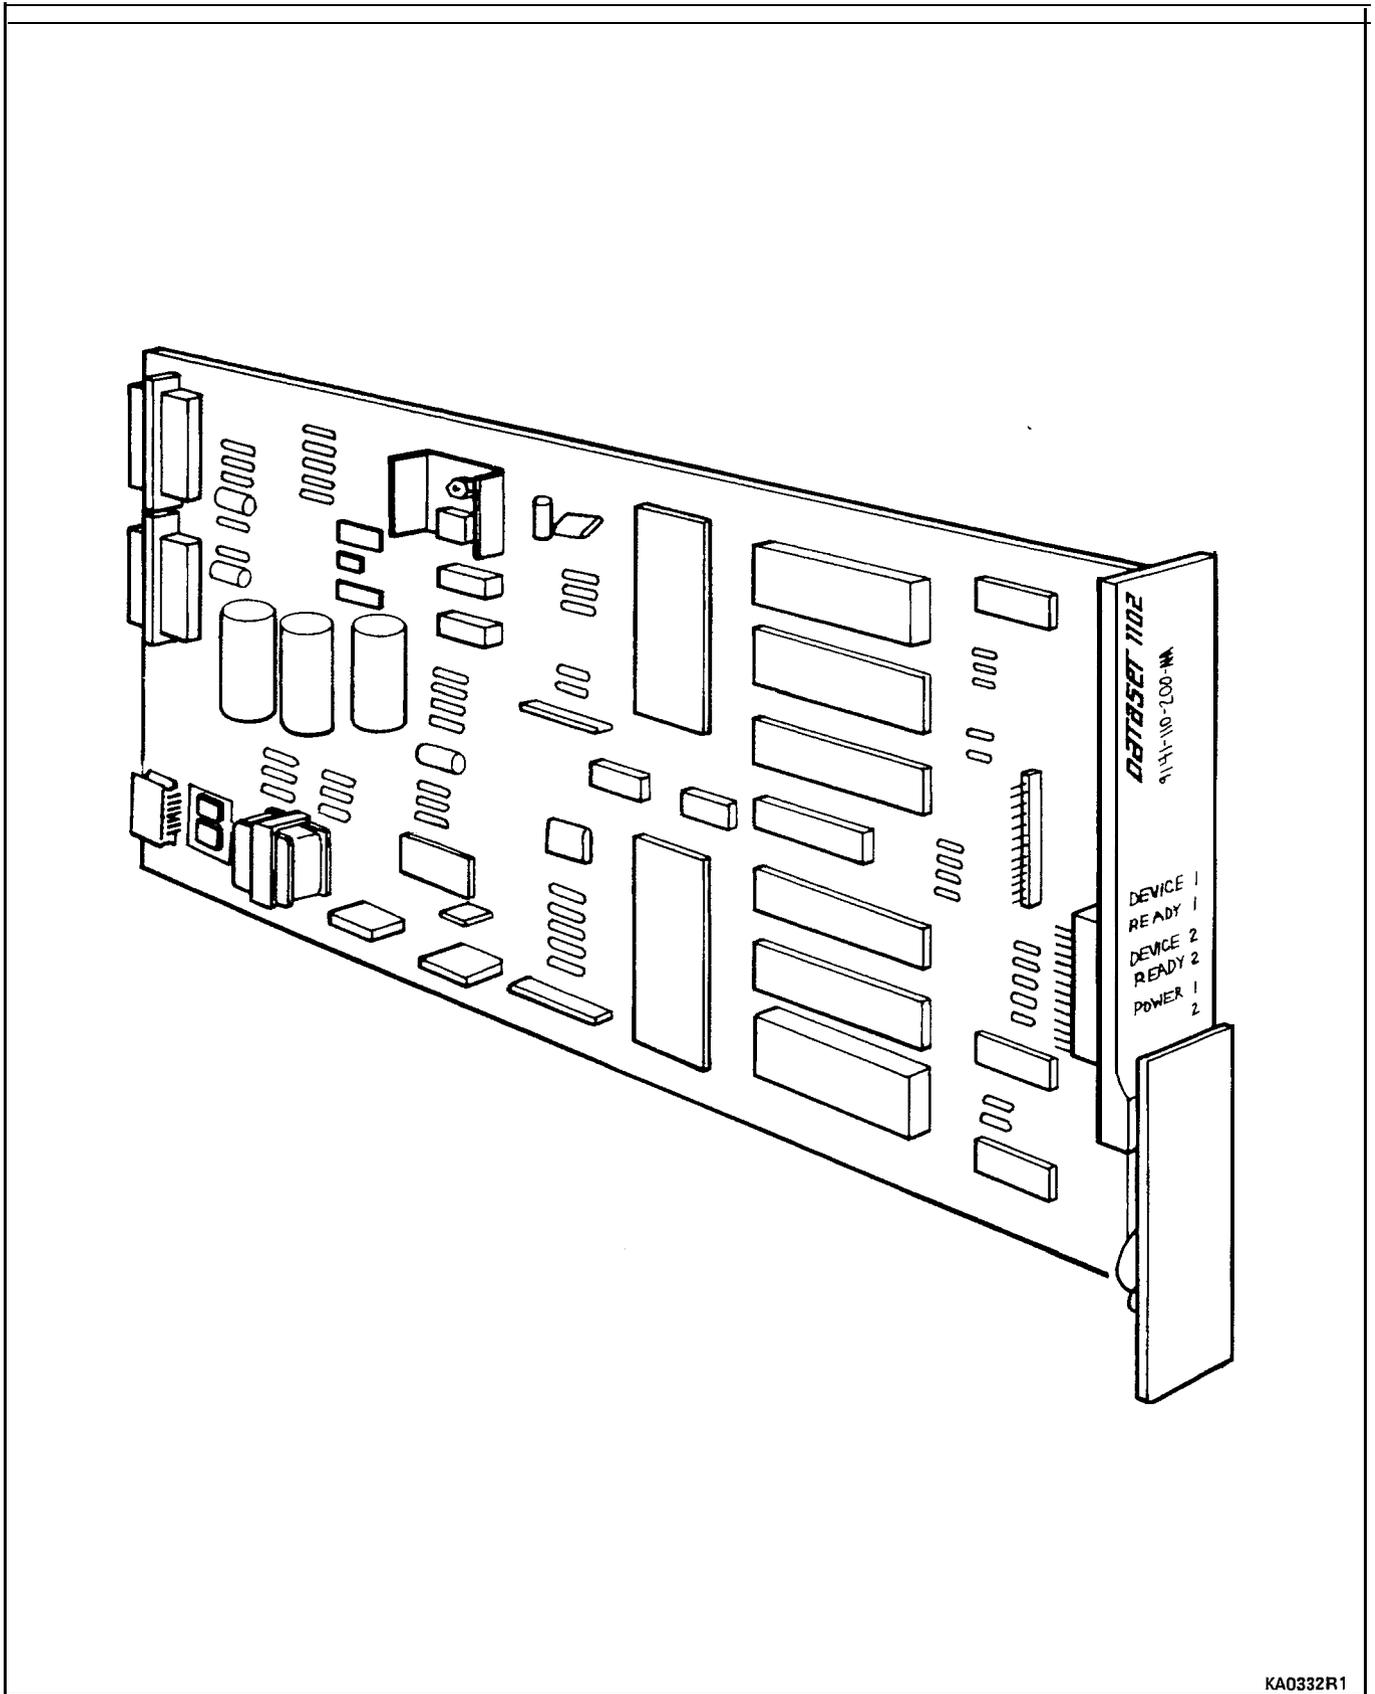

Figure 4-1 DATASET 1102 Dual Rack Mounted card
4.01 A DATASET 1102 Dual Rack Mounted card contains two DATASETs mounted on a common pcb; it has LEDs on its front panel, but no switches or keys for manual operation. Each DATASET 1102 Dual Rack Mounted card, which is installed within a data cabinet, interfaces to a PABX Digital Line Card circuit through a single pair. The DATASHELF 9100 connects to the PABX through a 25-pair cable; each card slot is assigned one of these pairs. Figure 4-1 shows a DATASET 1102 Dual Rack Mounted card.